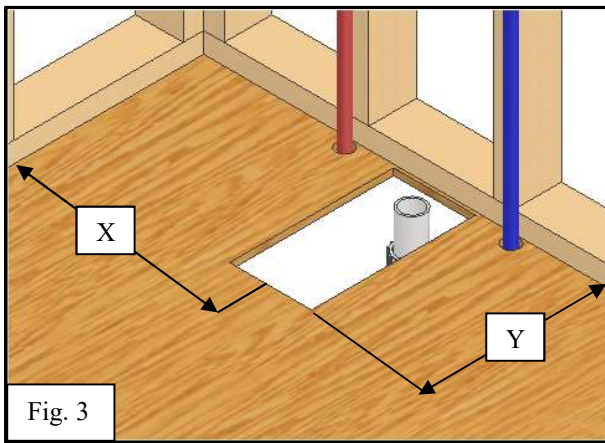

Fig. 3
- 3) Check the drain location at this time. Mark subfloor for drain location and cut around drain for access (Fig. 3).